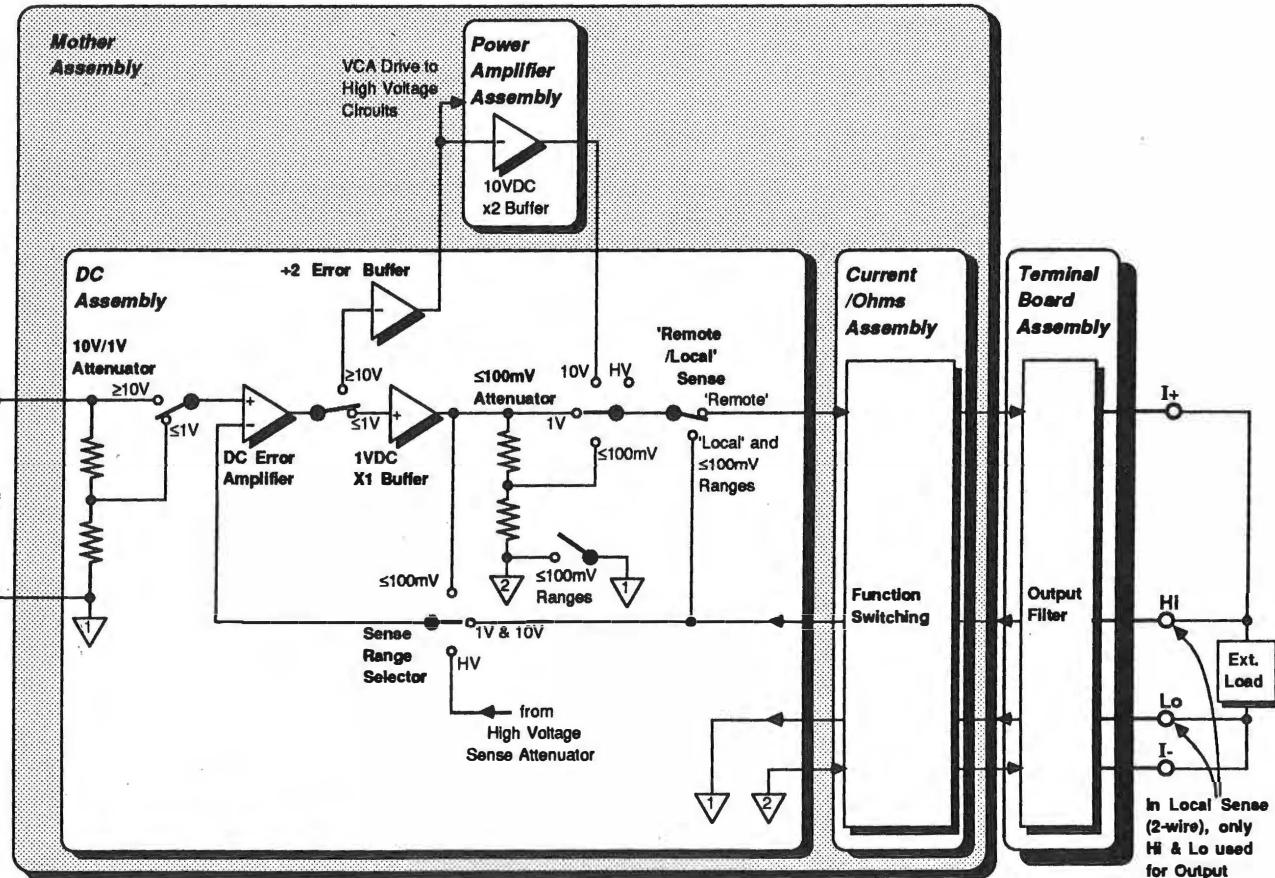

FIG. 7.1 LOW VOLTAGE DC OPERATION - SIMPLIFIED FUNCTIONAL DIAGRAM
7.2 LOW VOLTAGE LOOPS (Fig. 7.1)
The low voltage loop and routing are illustrated in the simplified diagram of *Fig. 7.1*. Switching contacts are shown in positions set for the 1V Range.
The filtered sense voltage is fed into the Mother assembly between J26-2 (Hi) and J26-5 (Lo). (No external sensing is provided for the millivolt ranges. See paras 7.3.6.3, 7.3.8.2, 7.3.9.2 and Fig. 7.1 for the simplified local sensing arrangement.)